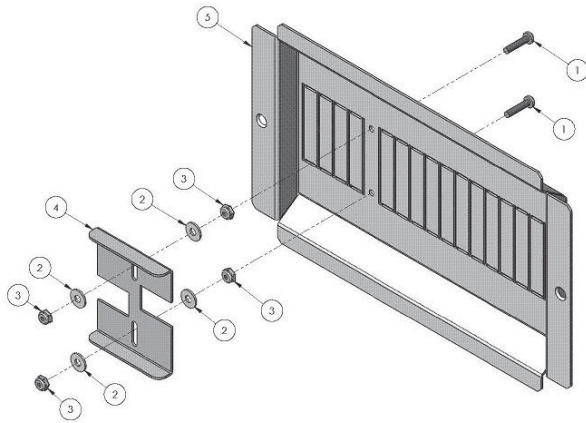

Figure 5: AC Breaker Bypass Slide Plate Installation
- Install the AC Breaker Bypass Slide Plate (see Figure 5).
2. Install AC Breaker Bypass Slide Plate and fasteners as shown in Figure 5.